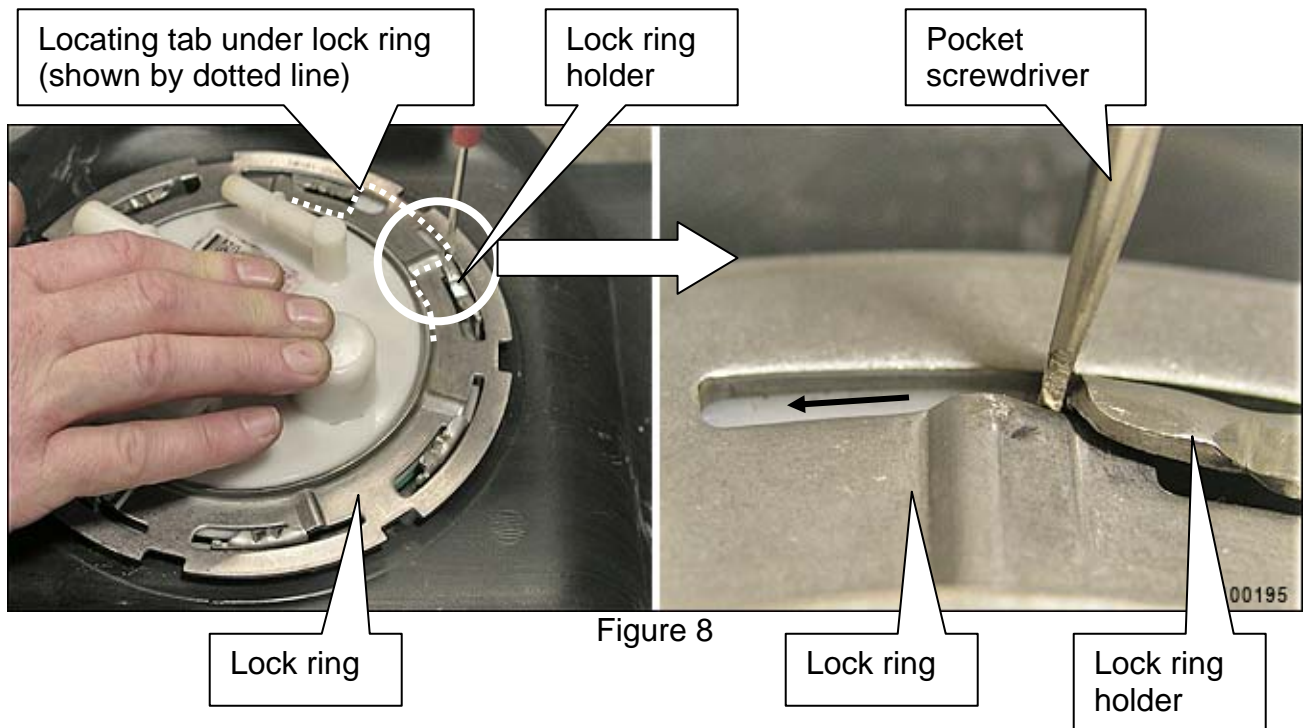

Figure 8
- c. Insert a pocket screwdriver between the fuel pump assembly plastic locating tab and the lock ring holder as shown in Figure 8.